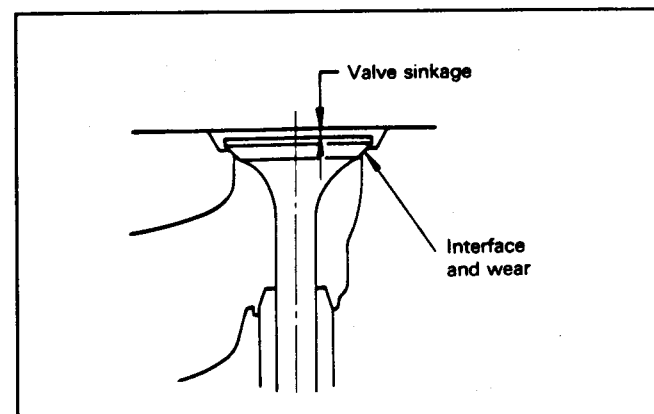

Figure 66
1. Check the valve seats for damage and indications of incorrect contact (Fig. 66).